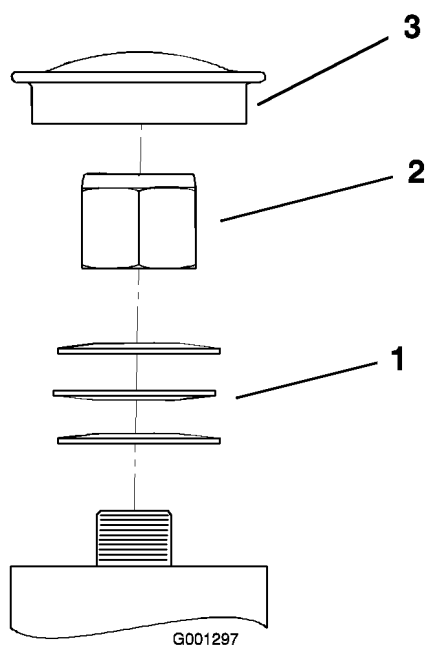

Figure 44
3. Remove the dust cap from caster and tighten lock nut (Figure 44).
4. Tighten the locknut until the spring washers are flat and then back off a 1/4 turn to properly set the pre-load on the bearings (Figure 44).
Important: Make sure spring washers are installed correctly as shown in Figure 44.
5. Install the dust cap (Figure 44).